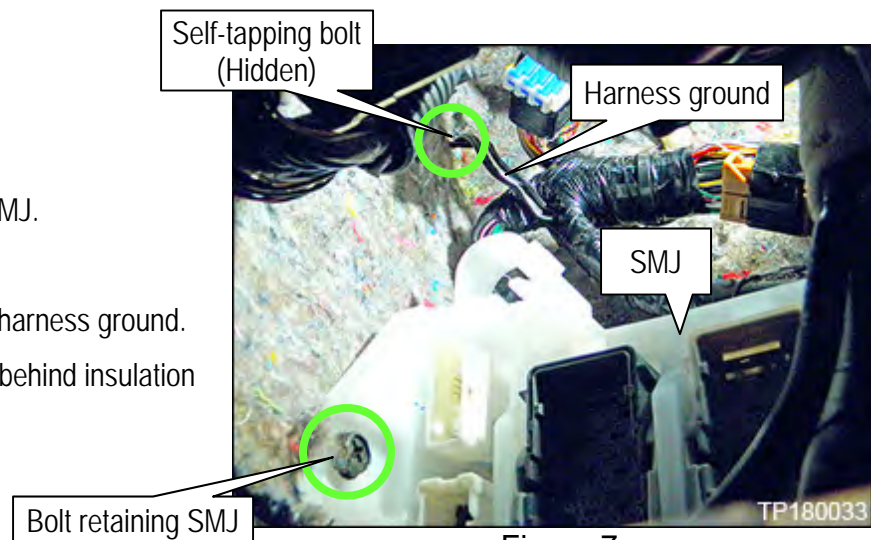

Figure 7
- NOTE:** Bolt hidden in Figure 7 behind insulation material.